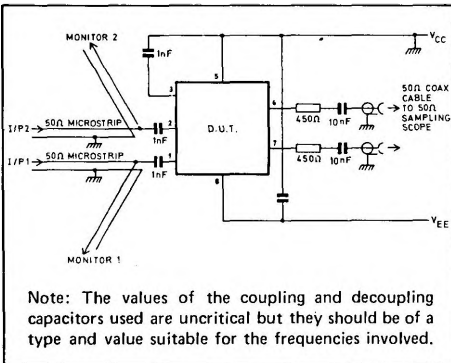

Fig. 3 Test circuit
- In practice, the 3.5kΩ resistors specified in the test circuit (Fig.3) are not essential: omission of these resistors will reduce the maximum supply current to 18mA.